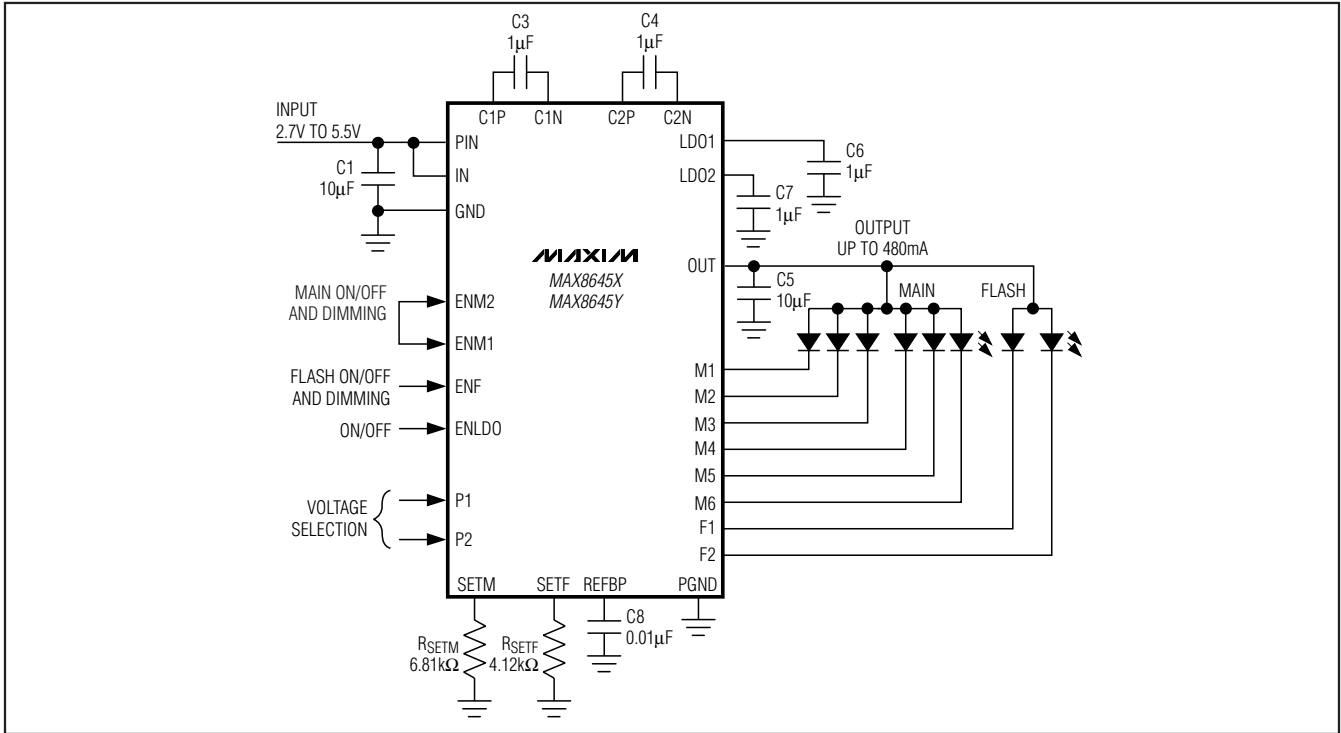

Figure 2. Dimming Using Single-Wire, Serial-Pulse Interface
( $V_{IN} = V_{EN\_} = 3.6V$ , circuit of Figure 2,  $T_A = +25^\circ C$ , unless otherwise noted.)
For more dimming flexibility or to reduce the number of control traces, the MAX8645X/MAX8645Y support serial pulse dimming. Connect ENM1 and ENM2 together to enable single-wire pulse dimming of the main LEDs (or ENF only for single-wire pulse dimming of the flash LEDs). See Figure 2. When ENM1 and ENM2 (or ENF) go high simultaneously, the main (or flash) LEDs are enabled at full brightness. Each subsequent low-going pulse (500ns to 250µs pulse width) reduces the LED
**Table 3. Recommended Components for Figure 2**